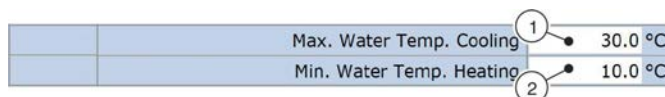

Fig. 55: Setting the water temperature
3. ▶ Enter the maximum water temperature for cooling (Fig. 55 /1).
4. ▶ Enter the minimum water temperature for heating (Fig. 55 /2).